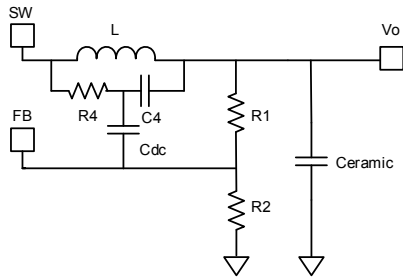

Figure 12: Simplified Circuit of Ceramic Capacitor with DC Blocking Capacitor
Using Equation (14) on page 17 to calculate R1 can be complicated. To simplify the calculation, a DC-blocking capacitor (CDC) can be added to filter the DC influence from R4 and R8. Figure 12 shows a simplified circuit with external ramp compensation and a DC-blocking capacitor. With this capacitor, R1 can easily be obtained by using the simplified equation for PWM mode shown in Equation (17):